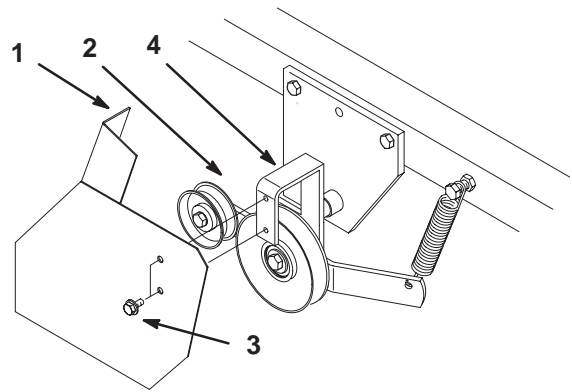

Figure 30
3. Remove the belt guard (Fig. 30).
Important Belt must be properly routed behind belt guide to prevent jumping off and premature failure (Fig. 30).
10. Install belt guard to mid-mount bracket with 2 self tapping bolts (1/4 x 1/2 inch) (Fig. 30).